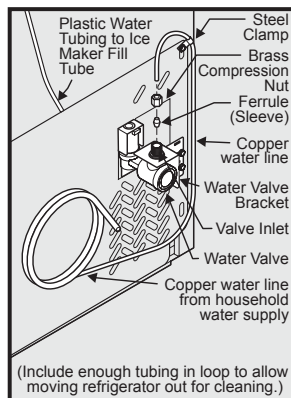

Figure 1
- If you use copper tubing - Slide brass compression nut, then ferrule (sleeve) onto water supply line. Push water supply line into water valve inlet as far as it will go (1/4 inch). Slide ferrule (sleeve) into valve inlet and finger tighten nut onto valve. Tighten another half turn with a wrench; DO NOT overtighten. See Figure 1.